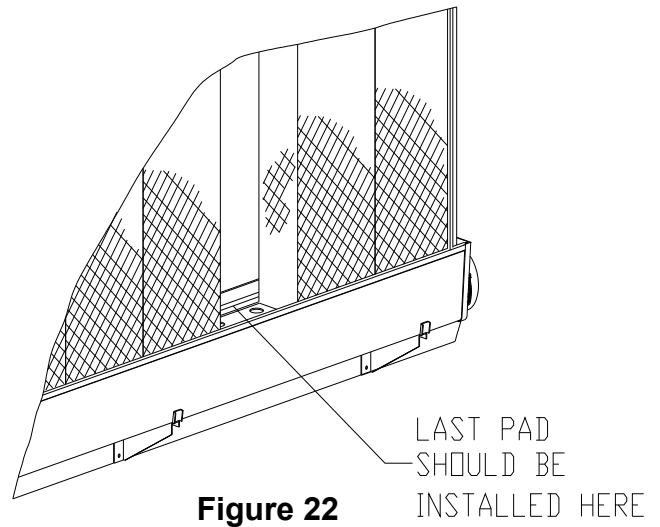

Figure 22
- NOTE: Pad width is not always 12 inches. The last pad should not be installed at the end and may need to be trimmed to fit easily into the available space. Place at least two pads into the end of the system leaving room for the last pad as shown in Figure 22. To install the last pad, measure the opening for the last pad and trim to fit the opening. DO NOT force the last pad into a space that is smaller than the pad.